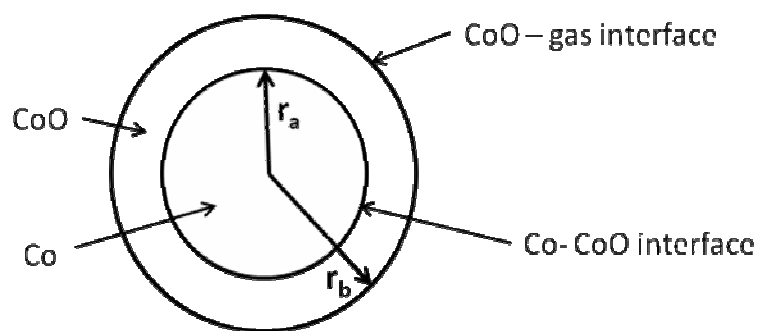

Fig. 2
Solid cobalt oxide (bulk) is formed in the reaction vessel. This causes an irreversible loss of the catalyst's mass. Solid cobalt oxide can also be deposited on the surface of Co(s). In this case the new spherical layer is formed around the surface of the catalyst (see figure 2) and the catalytic activity drops.
Assume now that solid cobalt oxide forms a spherical layer around a nanoparticle of cobalt. In this case the nanoparticle contains both a reactant (Co) and a product (CoO) (fig. 2).
2.3.4 When spontaneous oxidation of Co begins the radii of two layers in the nanoparticle (Fig. 2) are almost equal, $r_a = r_b = r_0$, and $\Delta_r G^0(1, r_a, r_b) = \Delta_r G^0(1, r_0)$. Assume that $\sigma_{\text{CoO-gas}} = 2\sigma_{\text{CoO-Co}}$. Which plot in the Answer Sheet describes correctly the dependence of $\Delta_r G^0(1, r_0)$ on r_0 ?